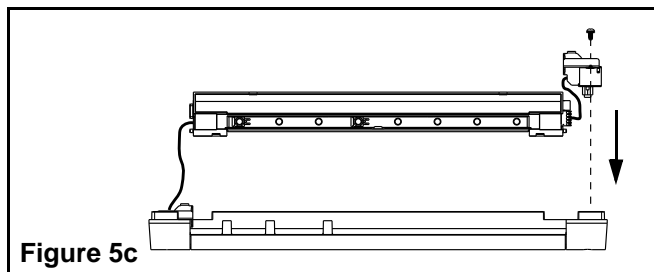

Figure 5c
- c. Re-install the electronic module, this time oriented as in (Figure 5c). For units with transformer: reconnect the transformer harness to the electronic module.